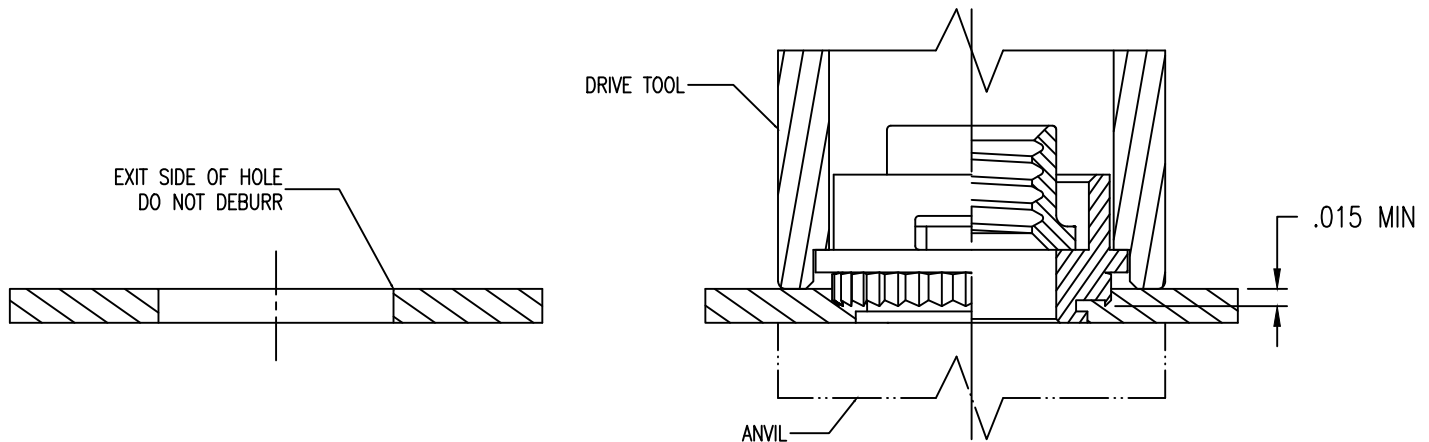

FIGURE 2 - HOLE PREPARATION AND INSTALLATION
- C.) USING A DRIVE TOOL AND ANVIL AS SHOWN IN FIGURE 2, APPLY SUFFICIENT FORCE TO CAUSE A .015 INCH MINIMUM PENETRATION INTO THE STRUCTURE FOR A FULL 360°. TOOL SHOWN IS A DEPTH-STOP TYPE TOOL WHICH INSTALLS NUT TO PROPER DEPTH WHEN TOOL BOTTOMS AGAINST SHEET SURFACE. USE OF NUT MANUFACTURER'S DRIVE TOOL AND ANVIL IS MANDATORY.